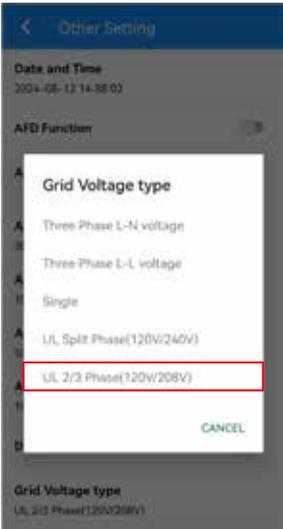

Figure 4-3 Grid Voltage type
2. Go to Console > Other Setting > Grid Voltage type to select the correct phase type: UL 2/3 Phase (120V/208V). (*Figure 4-3*)
- Go to Console > Other Setting > Grid Voltage type to select the correct phase type: UL 2/3 Phase (120V/208V). (*Figure 4-3*)